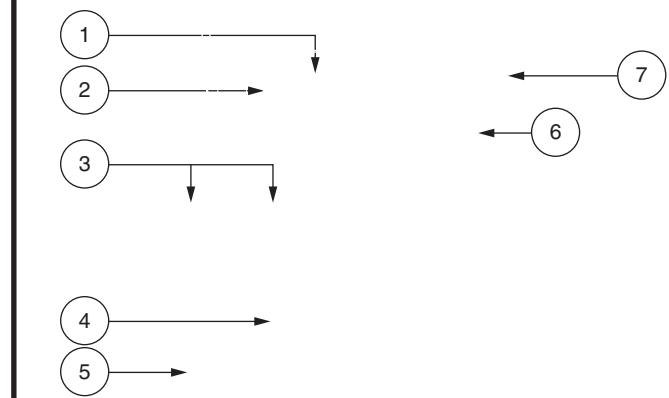

Figure 9. Armrest and Seatback Adjustments
NOTE: The most common configuration of the seat adjustment hardware is shown in figure 9. Your product may be equipped with a different configuration. All configurations operate in a similar manner.
1. Remove the adjusting screws from each seat hinge. See **figure 9**.
1. Locate the adjustment hardware on each side of the armrest receiver bracket. See **figure 9**.
2. Loosen the jam nut. See **figure 9**.
1. Loosen the setscrews on the armrest. **See figure 9.**
3. Loosen the setscrew on the controller bracket. **See figure 9.**
5. Loosen the setscrew on the underside of each armrest. **See figure 9.**